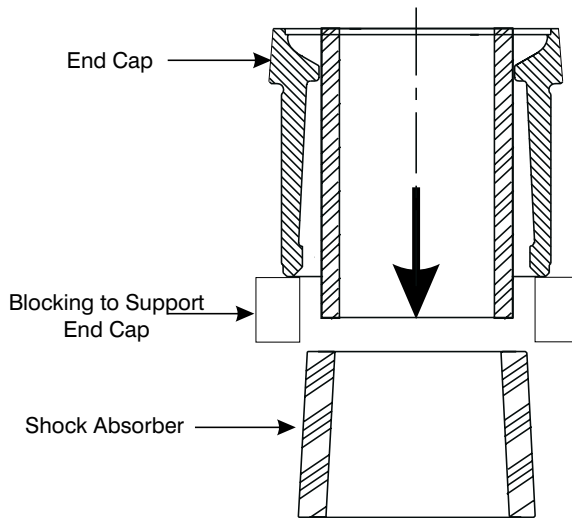

Figure 8-29. Press Shock Absorber from The End Cap.
10. Press the Shock Absorber (11) from the End Cap (10) as shown in Figure 8-29.